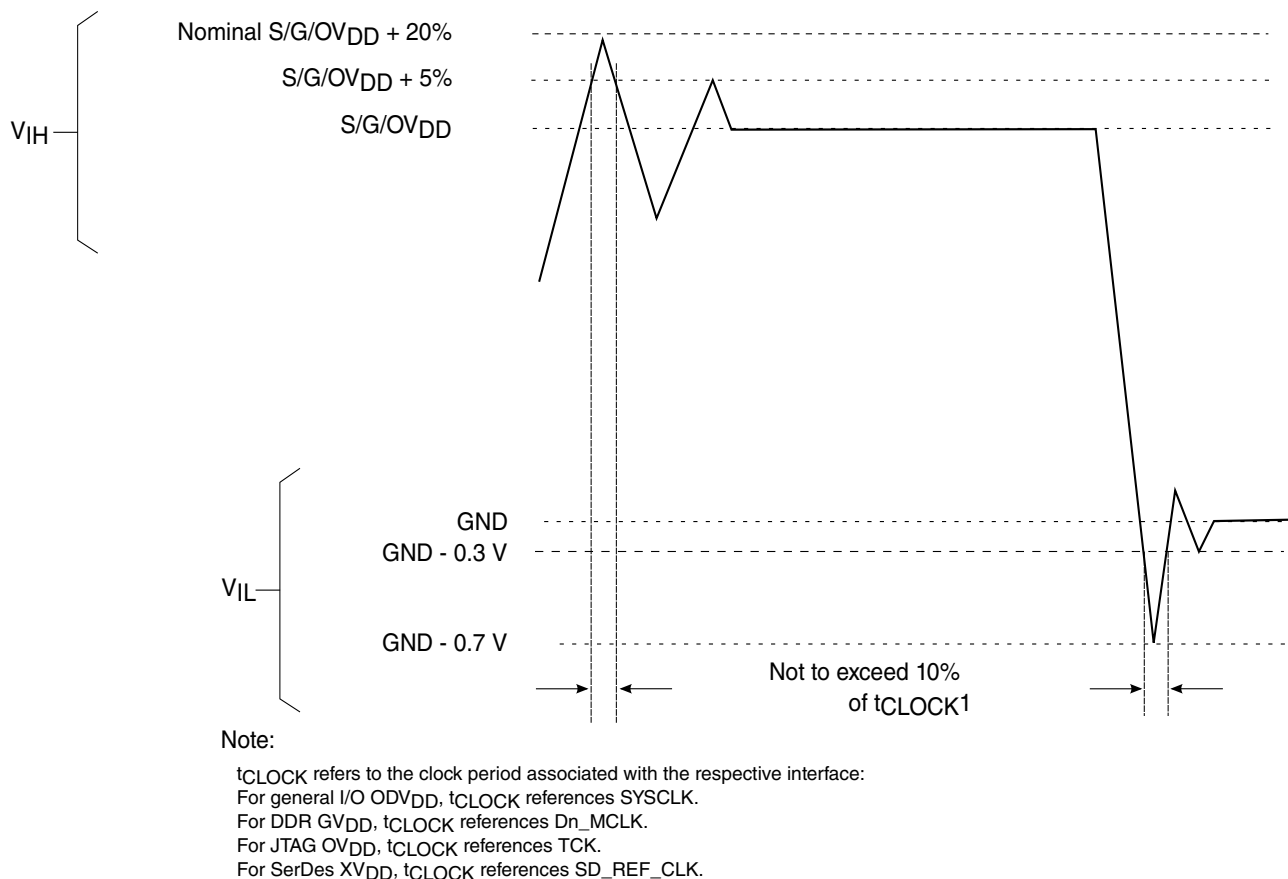

Figure 7. Overshoot/Undershoot voltage for $GV_{\text{DD}}/OV_{\text{DD}}/SV_{\text{DD}}$
4. SV_{IN} , USB_HV_{IN} , USB_SV_{IN} may overshoot/undershoot to a voltage and for a maximum duration as shown in Figure 7 .